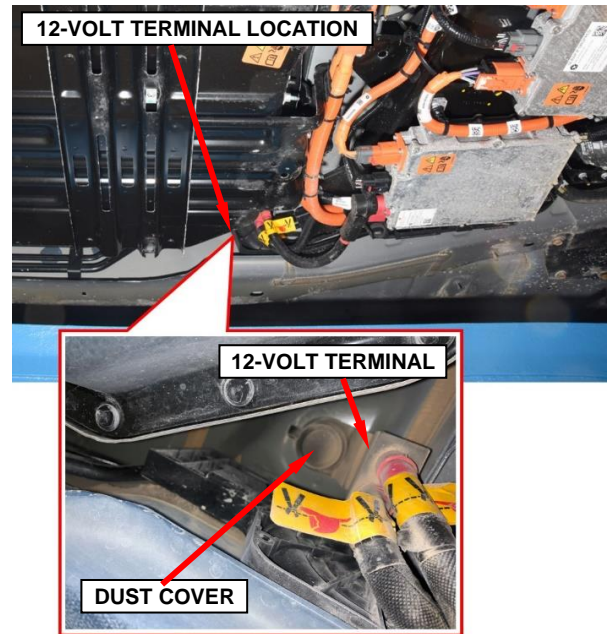

Figure 17 – 12-Volt Cable Underbody Connector Location
5. 12-volt cable underbody connector location (Figure 17).
6. Release the dust cover from the 12-volt cable terminal (Figure 17).
33. Install the dust cover to the 12-volt cable terminal (Figure 17).